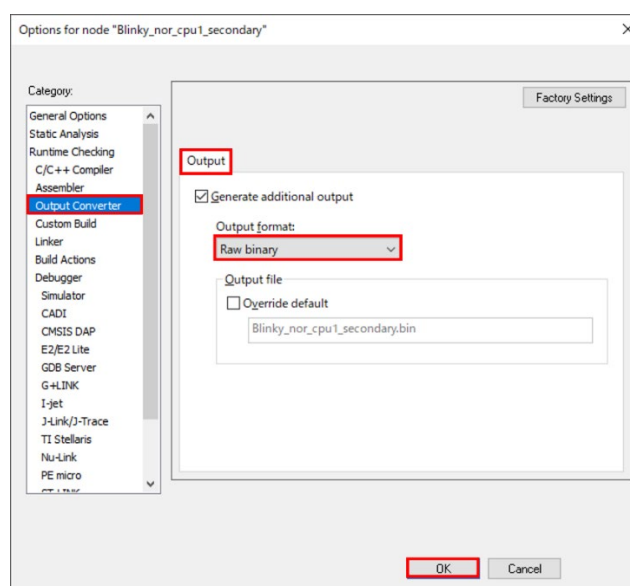

**Figure 139 IAR EWARM Running Projects**
12. (Flash boot) Click **Project > Debug without Downloading** of the primary project to debug. Debug the projects according to the procedures in 5.3.5 Debug for Multiprocessing No. 4 and after. As shown in Figure 139, it is according to the setting in multicore\_setup.xml. The primary project is 0, the secondary project is 1, and the tertiary project is 2.